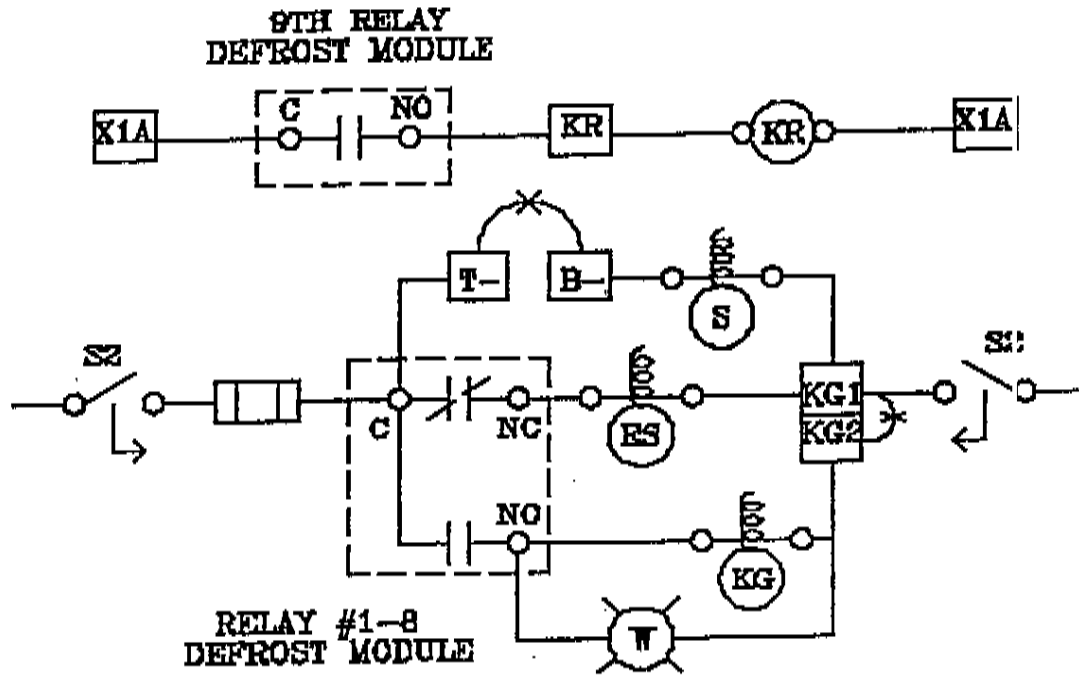

Figure 2-1
Figure 2-1 shows a typical gas defrost circuit which incorporates an EPR solenoid for use during the refrigeration cycle. The EPR solenoid (ES) is energized off of the normally closed set of contacts from the defrost module relay. During defrost, the ES is denergized and the normally open set of contacts closes to energize the Koolgas solenoid (KG). The ES solenoid closes the suction line to the Suction Manifold and the KG koolgas solenoid opens the Koolgas line to the Evaporator. Koolgas vapor flows backward through the evaporator, giving up heat to the Evaporator for defrost.